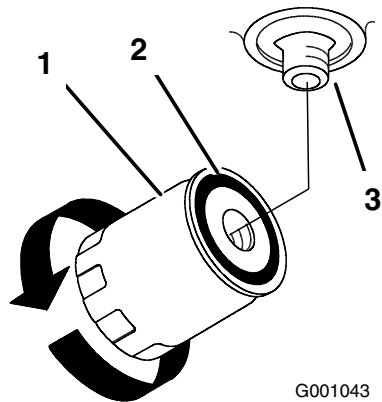

Figure 69
7. Apply a thin coat to the rubber gasket on the replacement filter (Figure 69).
adapter, then tighten the filter an additional 1/2 turn (Figure 69).